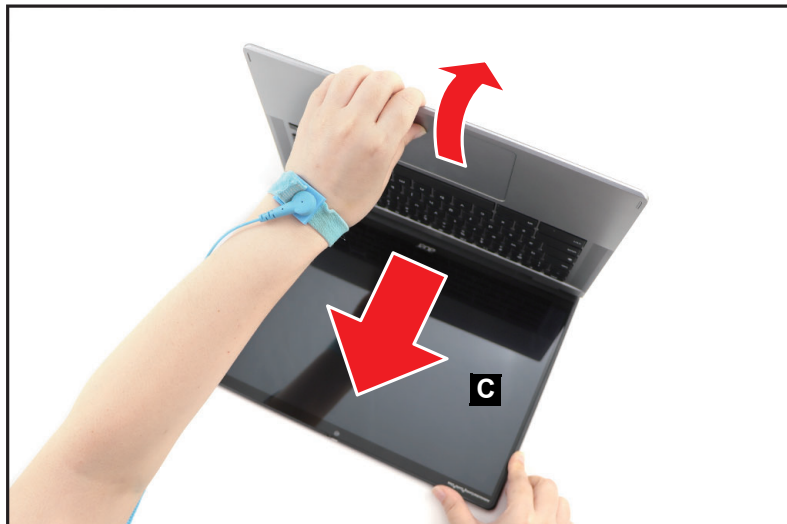

Figure 1-17. LCD Module Removal
5. Open the top assembly. Then remove the top assembly away from the LCD module (C) (Figure 1-17).